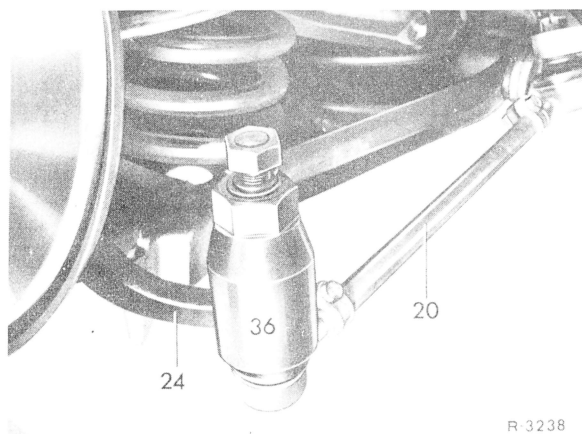

Fig. 4
- 8 Remove track rods left and right from steering knuckle arm (Fig. 4) ("Brakes, Steering", 46.1–530 and 46.2–530).